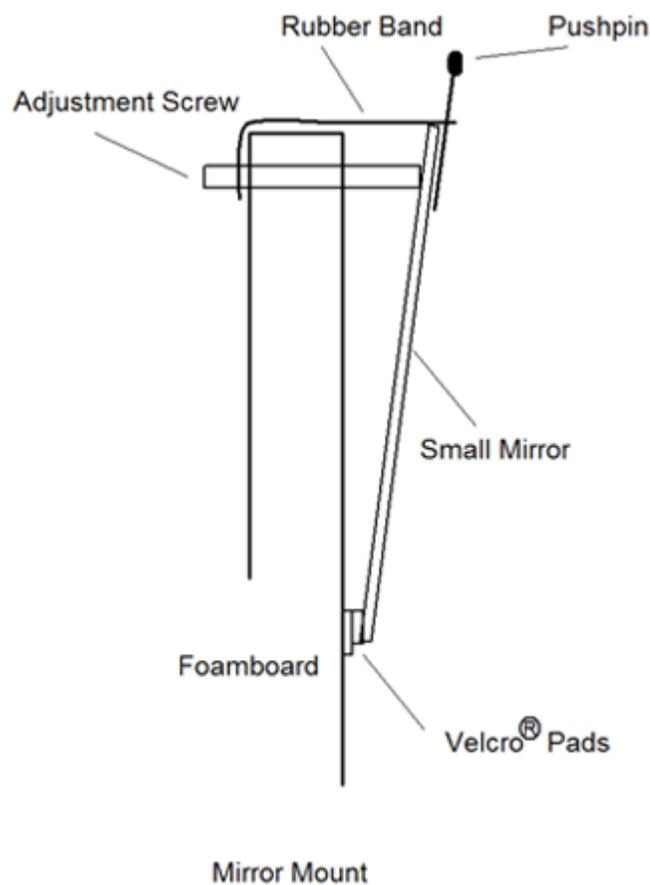

Figure 13. This diagram shows a side view of one of the six surrounding mirrors attached to the hexagonal mirror mount.
- Using the Velcro® patches, attach the six remaining mirrors to the mirror mount. Put in the adjustment screws. As shown in Figures 13 and 14 below, tie each mirror's pushpin rod to the hexagon mirror mount with a small rubber band so that the mirrors will be held firmly against the adjustment screws. Do not stretch the elastic bands so tight that they pull the pushpin out of the glue holding it.